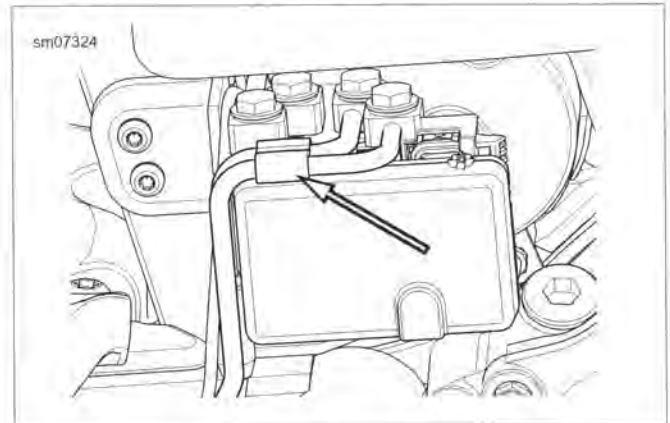

Figure 2-75. Brake Line Clip at ABS Module
9. See Figure 2-75. Remove brake line clip.
See Figure 2-75. Failure to install clip on rear brake lines at ABS module may result in the brake lines rubbing against the rear fork during vehicle operation.
2. See Figure 2-75. Install brake line clip at ABS module.